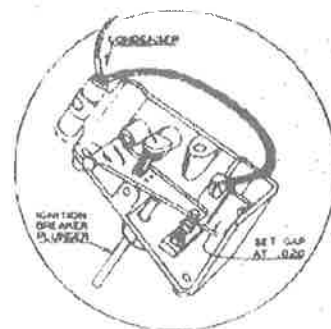

Figure 3. Ignition Breaker Mechanism with the cover removed.
9. **Ignition.** Remove the cover from the ignition point breaker mechanism. Turn the engine over by hand until the breaker points are at their widest open position. Clean the points; set the gap at 0.020" unless otherwise specified on the breaker point cover. See Figure 3. This specified setting is very important, do not guess at the setting.